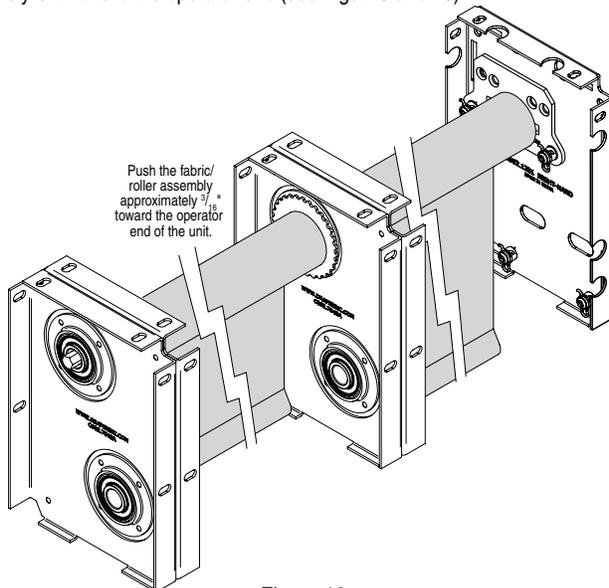

Figure 13
- 2 Push the fabric/roller assembly you are adjusting toward the operator-end of the unit. The fabric/roller assembly you are pushing will move approximately 3/16" toward the operator end (see Figs. 13 and 16).